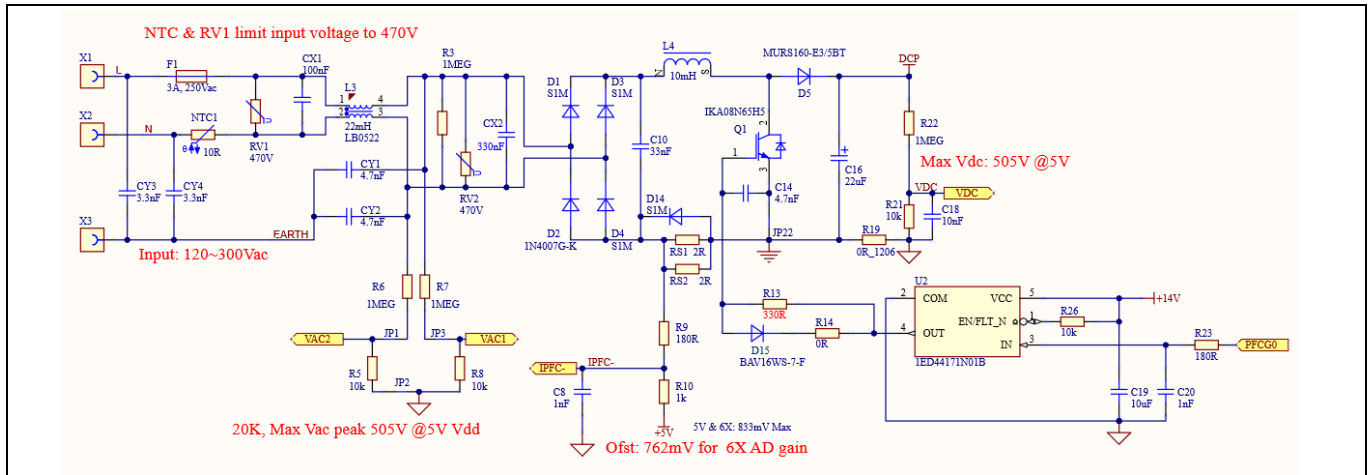

Figure 28 The PFC and peripheral circuit
Figure 28 provides the PFC MOSFET driver and peripheral circuit.
As shown in Figure 28, two resistors RS1 and RS2 (paralleled) with 1% tolerance, 2 Ω , and 0.25 W are used for the PFC shunt resistor in this reference board. The real AD input voltage can be calculated as below according to the principle of Kirchhoff's voltage law:
- In this reference board design, the voltage level on the PFC current-sensing resistor is negative with reference to ground, so an ADC operational bias is needed, and PFC current-sensing input polarity should select “inverting” in MCEWizard. R9 and R10 in Figure 28 determine the ADC operational bias for current-sensing; the bias value is 762 mV, so the real AD sampling range for the PFC current-sampling voltage ranges from 0 mV to 762 mV.